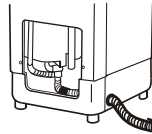

Figure 3
3. protrude the drain hose from the hole on the right side of the bottom, and fast it onto the bottom with the rack and screws. Set the bracket on the drain hose .There is a hole on the cabinet to hang the drain hose (as figure 3).